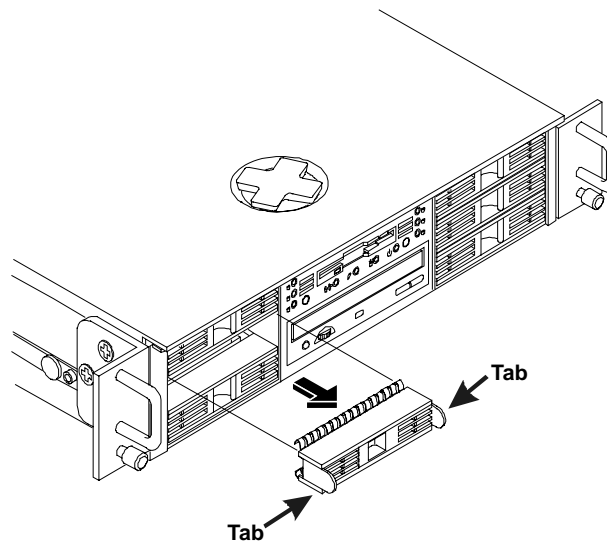

Figure 3-2. Removing a Filler Panel
- ◇ Ensure that the empty SCSI HDD slots in the chassis have filler panels inserted before powering on the Netserver to ensure proper airflow. See Figure 3-2.
1. Remove the filler panel from the drive slot. See Figure 3-2.